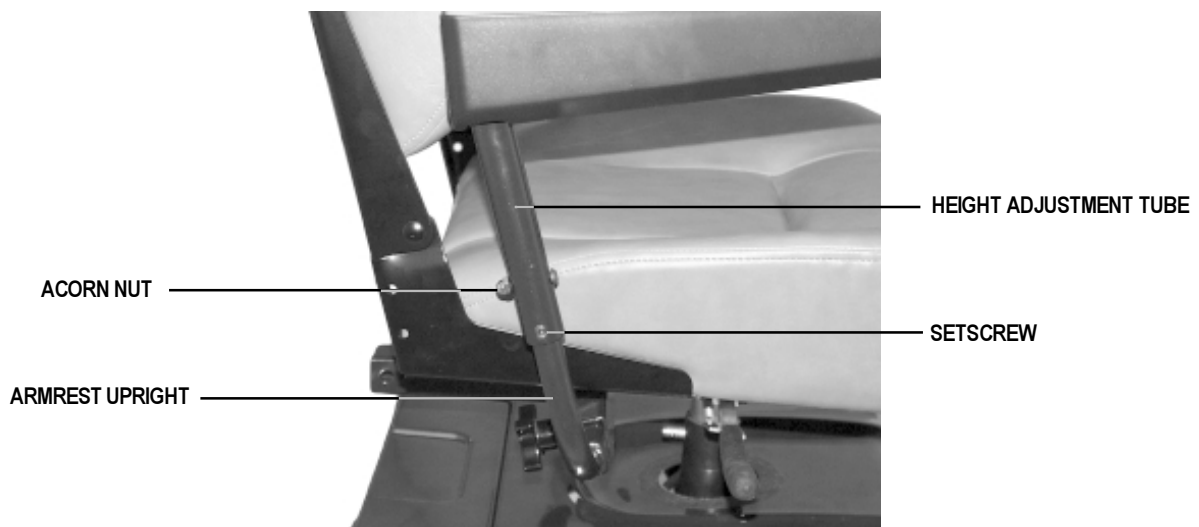

Figure 14. Armrest Height Adjustment
1. Loosen the setscrew on the side of the height adjustment tube with the 1/8" hex key. See figure 14.